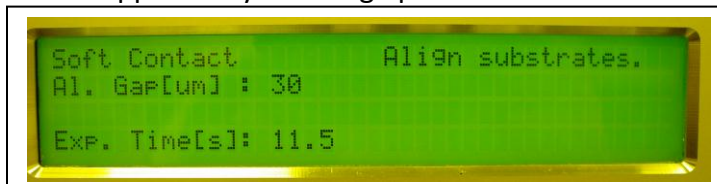

Figure 10.
- The controller will then display a window, (Figure 10) with instructions and an opportunity to change parameters.